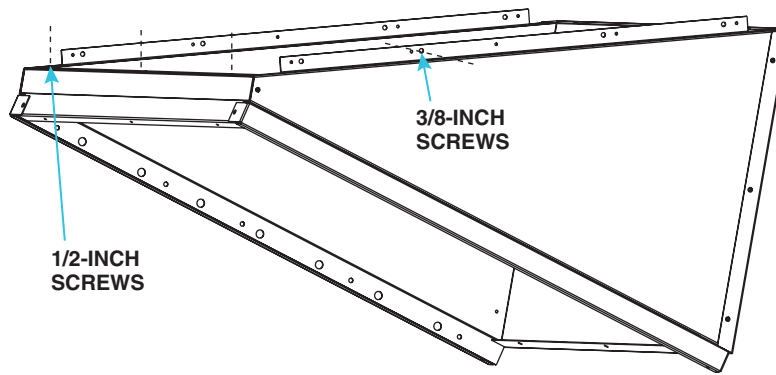

Figure 2. Nozzle Installation
4. Install assembled nozzle in heater outlet (see Figure 2):